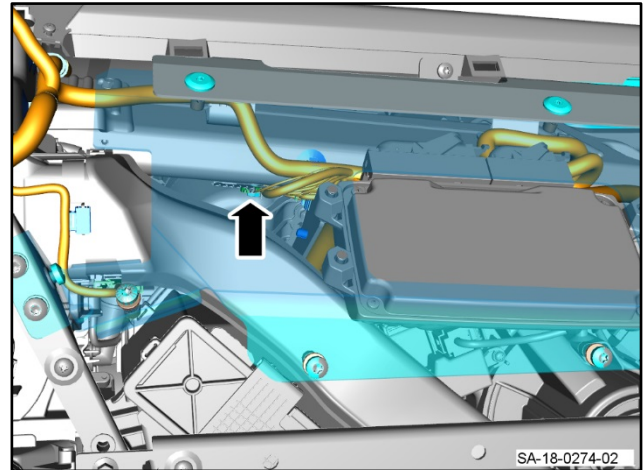

Figure 2
2. Remove the passenger's side bottom instrument panel (IP) assembly (Refer to Workshop Manual procedure 01.12.AG). You can then see the ground plate (refer to Figure 2).